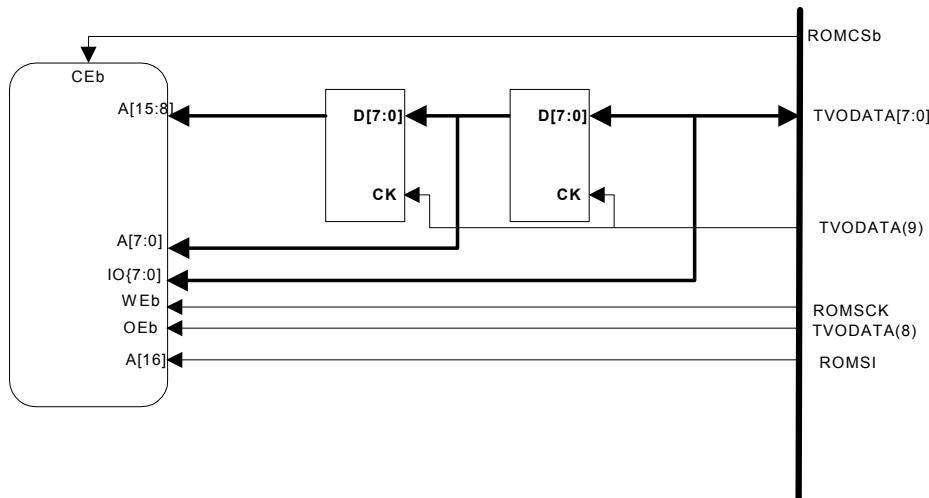

Figure 4-2 128K Configuration
Due to pin constraints, the two external octal flops are needed to latch the lower 16 bits of the ROM address. Figure 4-2 below shows the connection for a 128k parallel ROM. 64k ROM connection is the same except that the A(16) to ROMSI